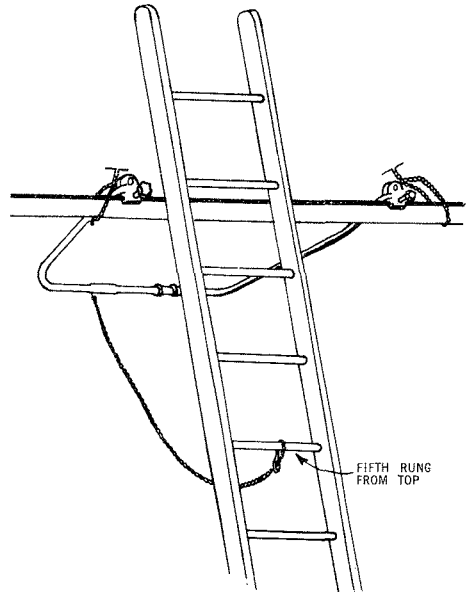

Fig. 20 — C Ladder Support in Position on Strand
6.21 To use the C Ladder Support, place the ladder against the strand and attach the support to the strand on the opposite side from the ladder. Place the safety chains around the strand or cable and strand. After the clamps are tightened the support will be in the position shown in Fig. 20. Attach the rope to the fifth rung from the top of the ladder. This will prevent the support from passing over the top of the ladder when the ladder is moved as described in Para. 6.22.